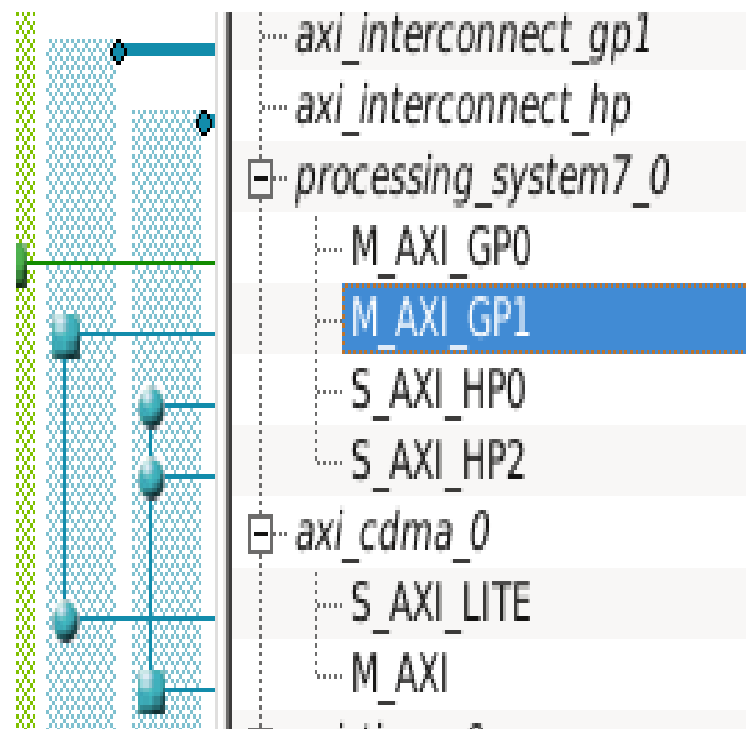

Fig 6. Specifying the Master-Slave connections between the two AXI Interconnects.
5.14. We will now manually specify the various connections between the Master and Slave ports of the processor and the AXI CDMA using the two AXI Interconnects which were added when the system was designed (axi_interconnect_gp1 and axi_interconnect_hp). XPS allows the user to specify the connections either graphically or by selecting value from drop down menus. Figure 6 shows the graphical method after the connections have been made. To specify the connections, select the Bus Interfaces tab from the System Assembly View and expand the processing_system_7_0 and the axi_cdma_0 instances to show their various ports. Note that in Figure 6, listed under the processing_system7_0 instance are four ports:
In Figure 6, a square box indicates that the listed port is acting as the Master, and a round circle indicates that the listed port is a Slave. The two vertical blue lines represent the connections between the AXI Interconnects in the system and the various Master/Slave ports. To specify that the M_AXI_GP1 port listed under processing_system7_0 is to be the Master connected to the axi_interconnect_gp1, we move the cursor to the square blue box and select it. Next, select the round blue circle listed in the “axi_interconnect_gp1” blue bus and the S_AXI_LITE port listed under the axi_cdma_0 instance. This will establish a connection between the M_AXI_GP1 port of the processor and the S_AXI_LITE port of the AXI CDMA core via the axi_interconnect_gp1.